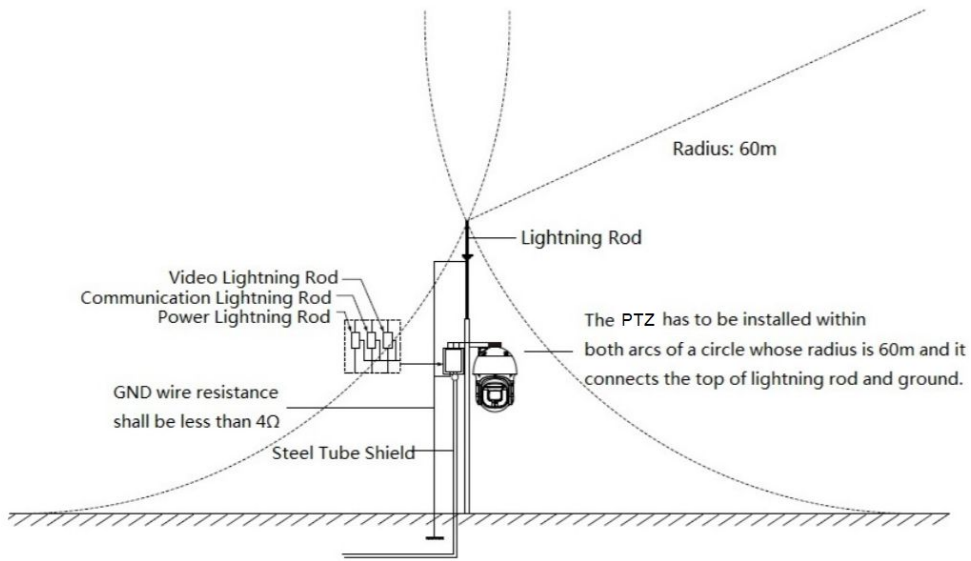

Figure 5-1
- Electrical bonding is recommended. The ground device should meet anti-jamming requirements and conform to your local electrical safety code. The ground device should not short circuit to N (neutral) line of high voltage power grid or mixed with other wires. When connecting the system to the ground alone, the grounding resistance should not be more than 4Ω and earth cable cross-sectional area should be no less than 25 mm². See Figure 5-1.